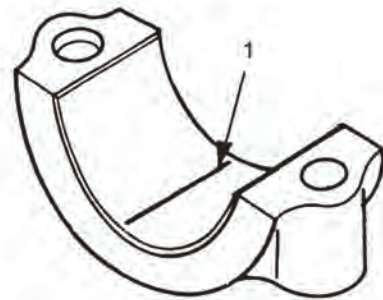

Figure 185
B. Place a piece of PLASTIGAGE (1, Figure 185) along the full width of each bearing insert.